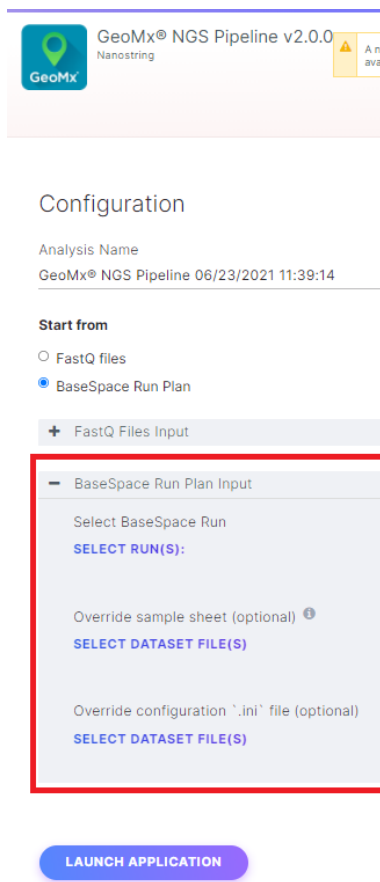

Figure 30: Start From option
4. For **Start From**, choose **BaseSpace Run Plan**, and enter only the input files associated with BaseSpace Run Plan (see Figure 30).